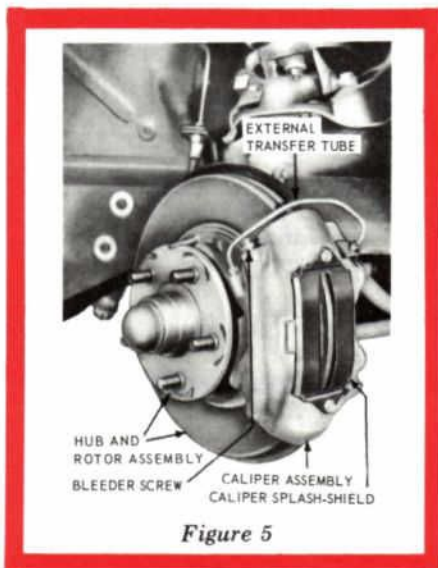

Figure 5
2. Remove the two bolts that retain the caliper splash shield, and remove the shield (Figure 5).
2. Install the caliper splash shield and secure the shield to the caliper with two retaining bolts (Figure 5).